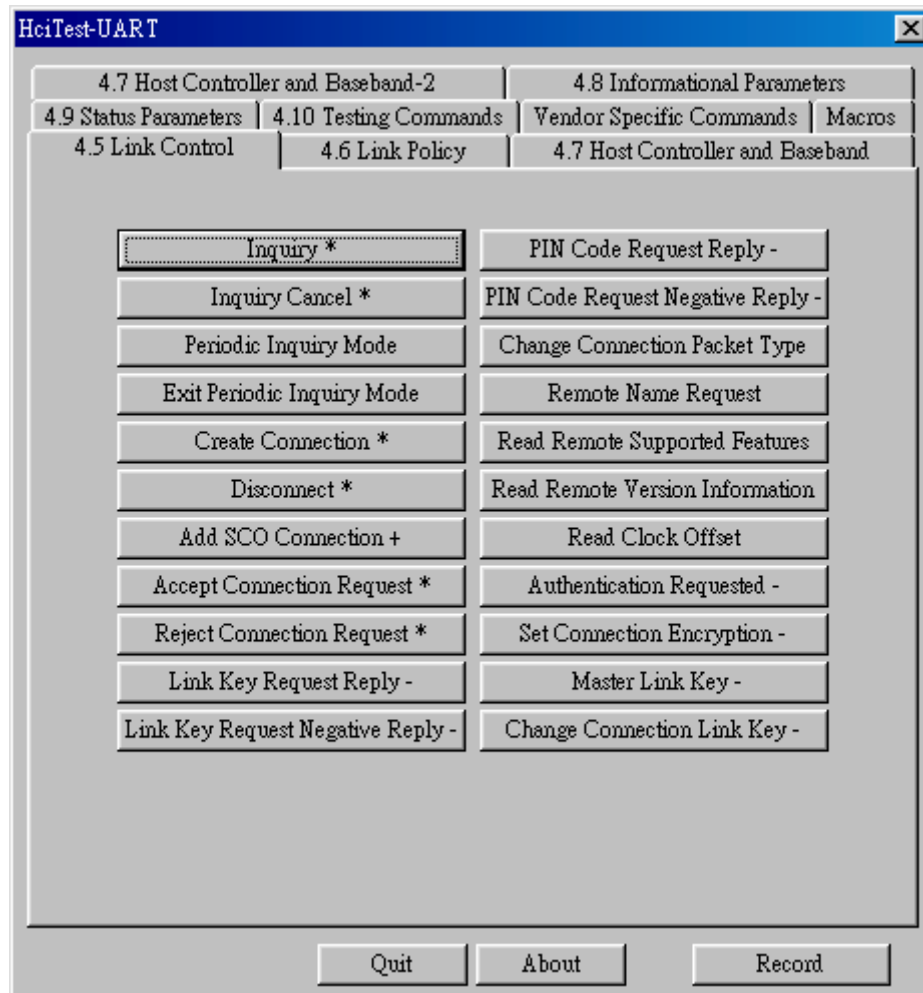
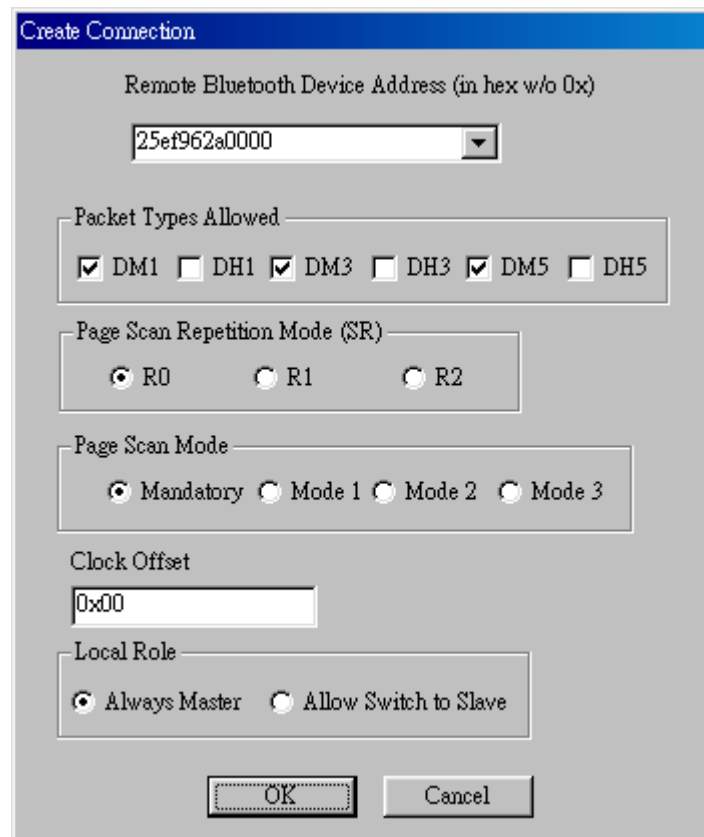

Figure 19: Create Connection
Figure 20: Create Connection
8. On the Master computer, click on “**4.5 Link Control**” box, and then click on the “**Create Connection**” button. (as Figure 19). A “**Create Connection**” window will appear, clicks on **OK** (as Figure 20).